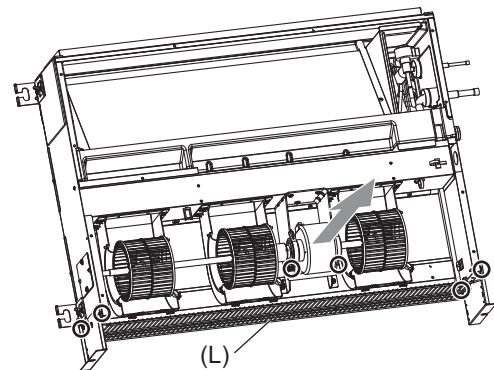

Fig.13
- (1) Remove the four fan guard (L) screws to remove it. (Fig. 13)
- (2) Remove the two motor fixing screws to remove the motor and the Sirocco fan in the direction of arrow. (Fig. 13)